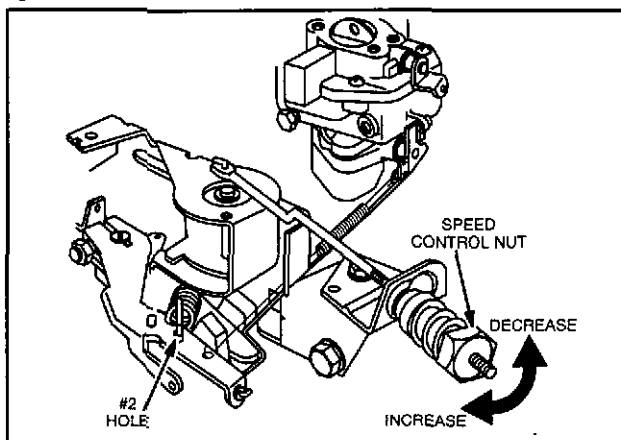

Fig. 22 - Adjusting Top No Load Speed
2. Now, engage the fixed speed adjustable control nut and adjust to **Regulated No Load RPM** for the type of generator listed in Table 1. Turn nut clockwise to increase speed. Turn nut counter-clockwise to decrease speed, Fig. 22.